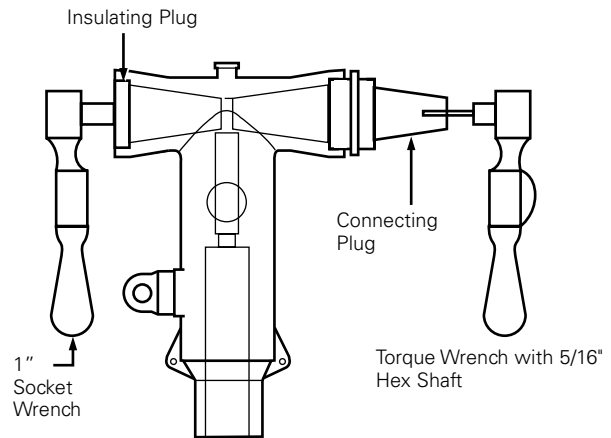

Figure 31. Separable splice assembly.
- Secure the connecting plug by inserting a 5/16" hex style wrench (HD625, HD635CP, or customer supplied alternate) into the hex hole at the base of the connector plug threads. Use a torque wrench to tighten the connecting plug to 55 ft-lbs. Refer to Figure 31.